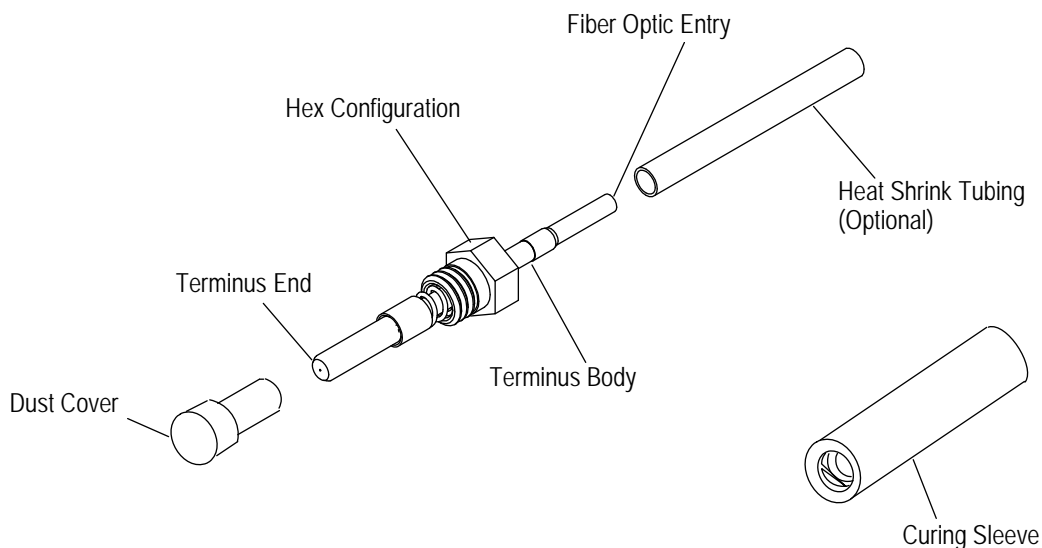

Figure 5
The termini are spring loaded to ensure contact pressure is equally applied to each terminus when the connectors are fully mated. The motherboard termini are designed for individual insertion and extraction and are protected by a fixed housing and a polarized movable housing. The daughterboard termini are terminated with cable and threaded into the cavity for a more permanent position. Each daughterboard terminus has a color code dot on the terminus body sleeve that indicates the hole size in the terminus for single mode applications (yellow 125 mm, red 126 mm, and blue 127 mm). See color dot in Figure 5.
B. Lightplane Terminus (Figure 5)